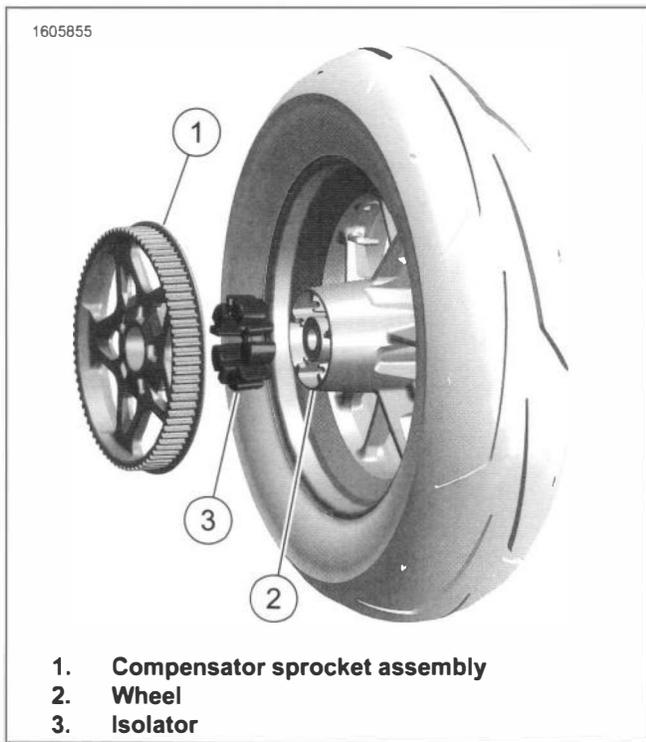

Figure 3-11. Sprocket and Wheel Isolator
1. See Figure 3-11. Remove rear wheel compensator.
- a. Pull compensator sprocket assembly (1) from rear wheel (2).
- b. Discard isolator (3).
1. See Figure 3-11. Install **new** rear wheel compensator.
- a. Lubricate each segment of **new** isolator (3) with equal mix of isopropyl alcohol and water.
- c. Push compensator sprocket assembly (1) into wheel (2).